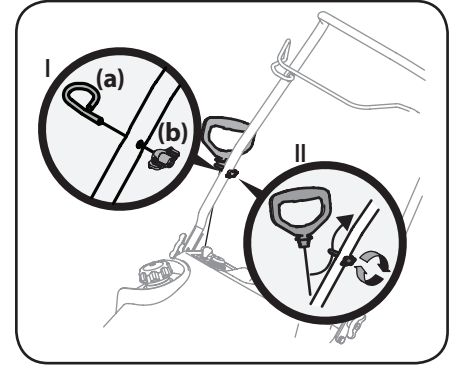

Figure 2-15
2. Place the eye bolt (a) and handle knob (b) on the upper handle as shown in Inset I in Figure 2-15. Do not fully tighten the hardware until instructed to do so.
4. Slip the recoil starter rope into the eye bolt (a) from the back of the snow thrower. See Inset II in Figure 2-15.